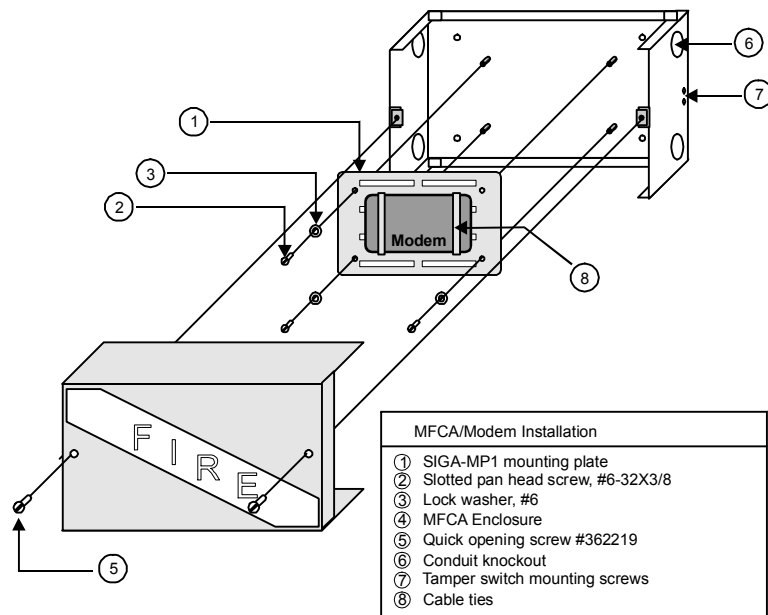

Figure 5-12: Suggested modem installation using MFCA and SIGA-MP1
1. Mount the MFCA enclosure back box at an acceptable location within reach of the panel. Refer to Figure 5-12.